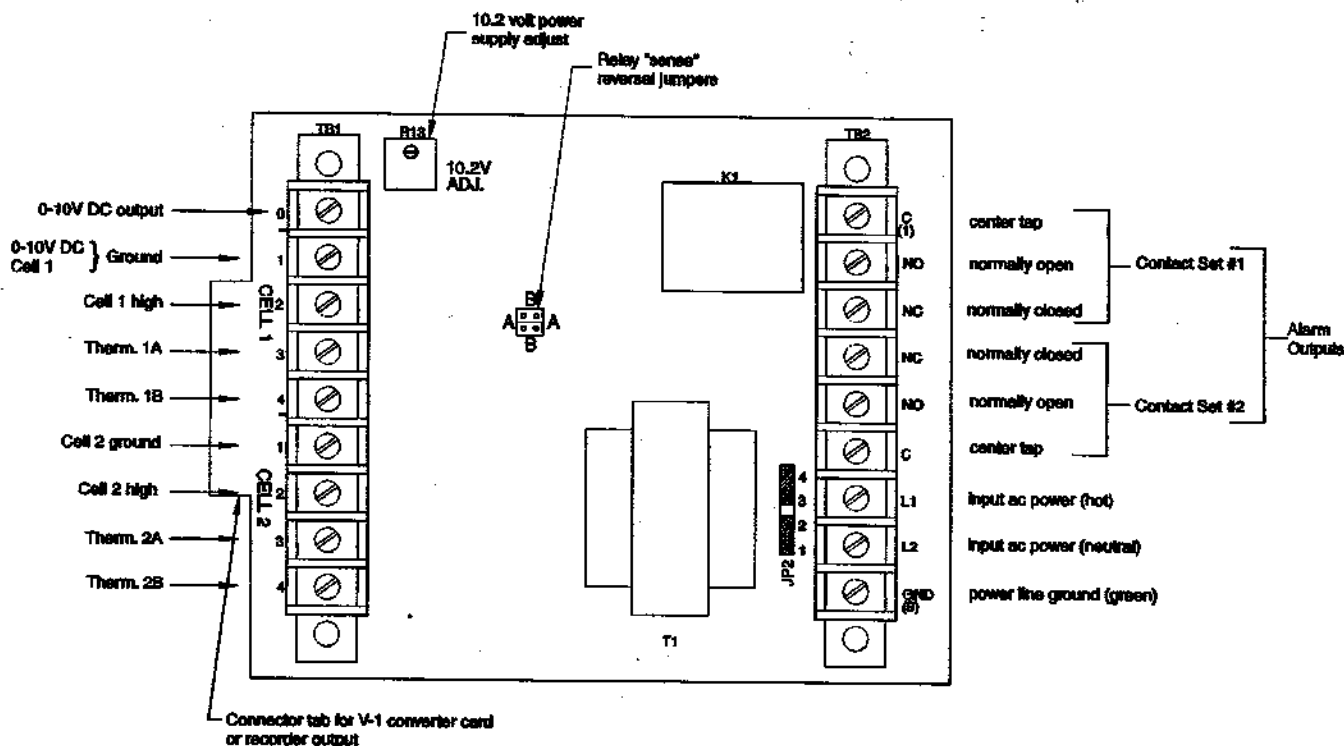

FIG. 5 Cell and Power Wiring
2.2 ELECTRICAL WIRING (FIG. 5)
2.2.4. Output Signal — Terminals 0 and 1 on TB1 provide a 0-10 volt dc output which is proportional to the span or meter reading. Connections made to this may be used to operate remote meters, recorders or as a computer interface. The output load should be such that no more than 5mA is drawn. Be sure the ground is connected to pin 1. (FIG. 5). The card edge tab on the left edge of 14256 also has connections for a voltage-to-current card or other remote recording devices. The 0-10 volt output as well as the ac line voltage is available from the card edge tab.